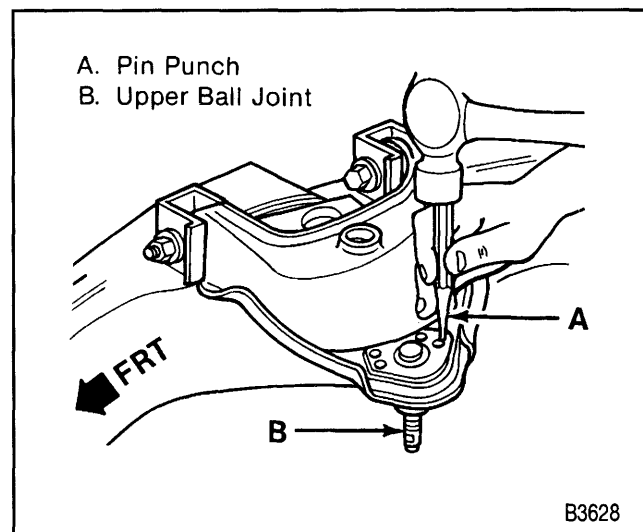
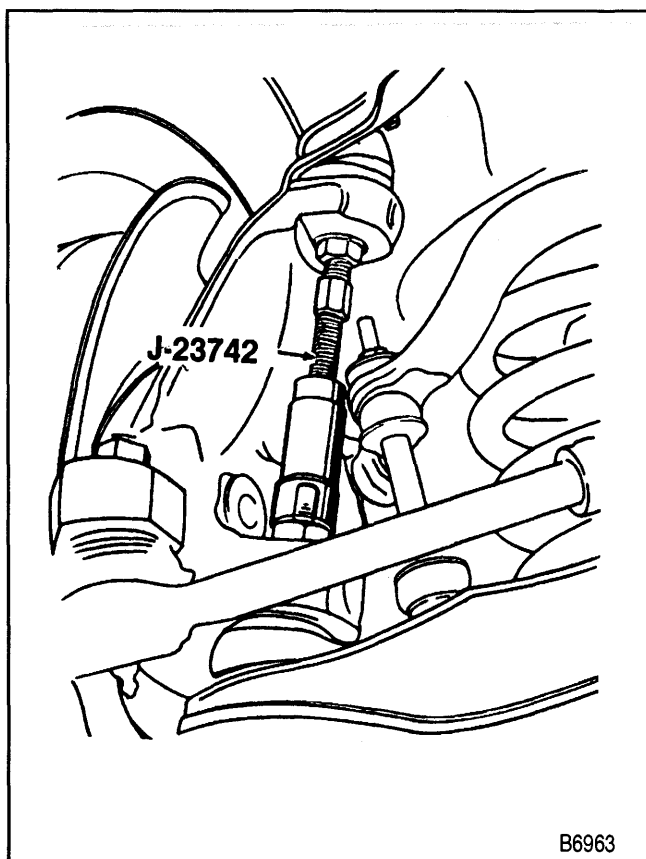

Figure 18—Removing the Upper Ball Joint Rivets
Figure 19—Disconnecting the Upper Ball Joint
- C. Punch the rivets out using a small pin punch (figure 18).
4. Cotter pin (68).
5. Stud nut (67) from the upper ball joint (66).
- A. Use J 23742 as shown in figure 19.
6. Upper ball joint (66).
7. Ball studs from the knuckle (23) using J 23742 (figure 19).